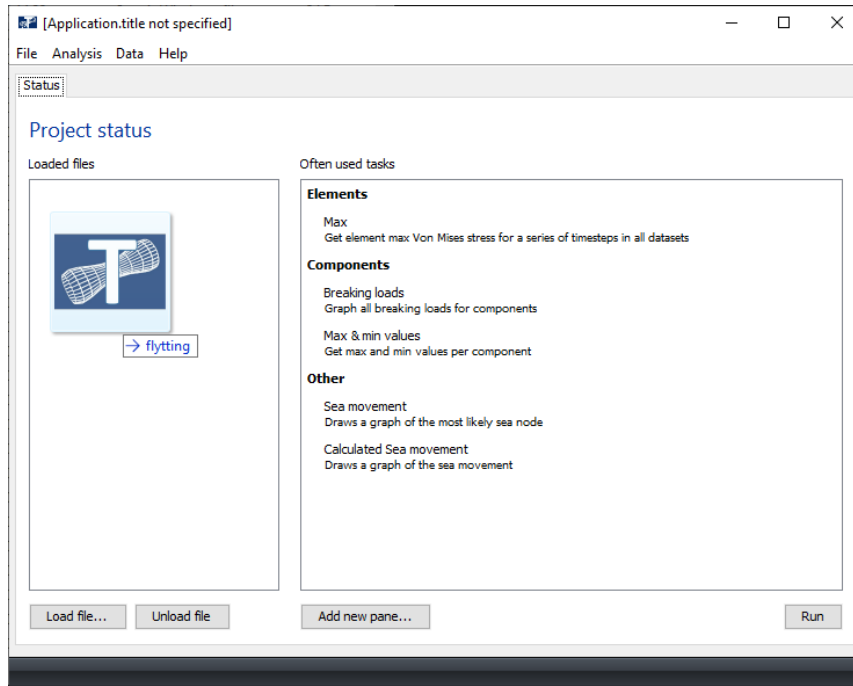

Figure 2 Loading .AVS-file through drag-and-drop
- Drag-and-drop .AVS-file into section for **Loaded files**, as illustrated in Figure 2.